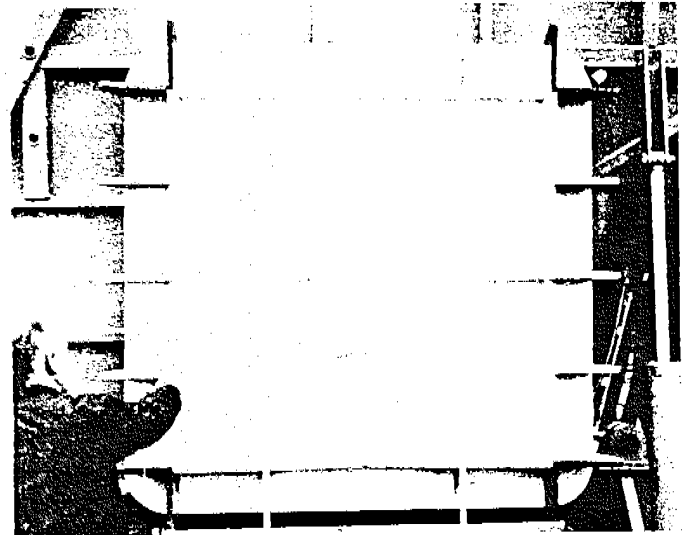
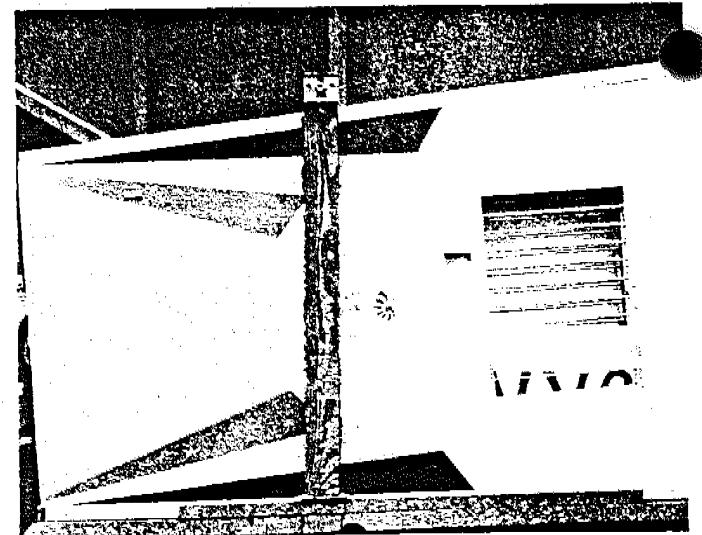

Fig. 6
Fig. 7
- The top stores on the right fender (Fig. 6), and the sides store on the left fender. (Fig. 7)